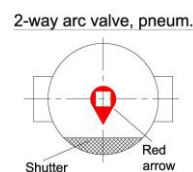

Fig. 2
- With the pneumatic arc / pigging valve, an optical position indication in the form of a red arrow on the square of the pivoted axle, indicates the current shutter position (see Figures 2 / 4 and 6)